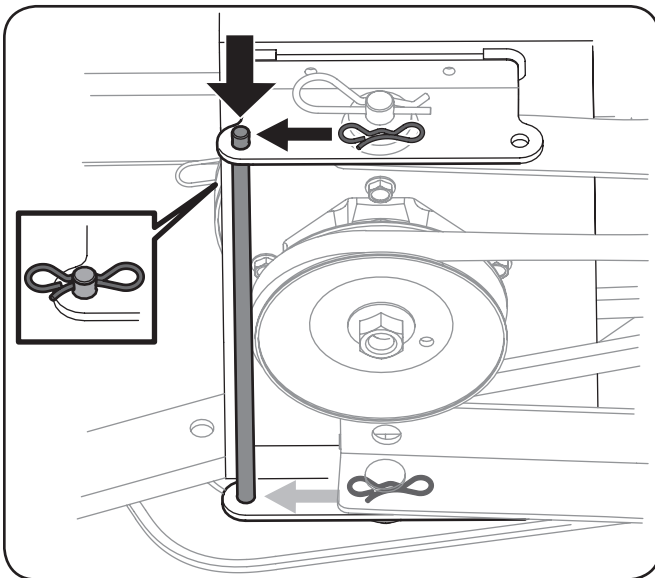

Figure 3-27
7. Reinsert the rod into the rear of the carriage assembly and secure it in place with the two hair pin clips removed earlier. See Figure 3-27.